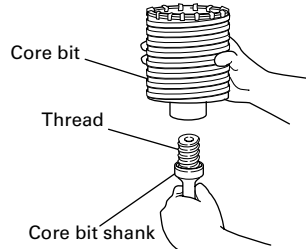

Fig. 17
- (1) Mount the core bit to the core bit shank (Fig. 17).